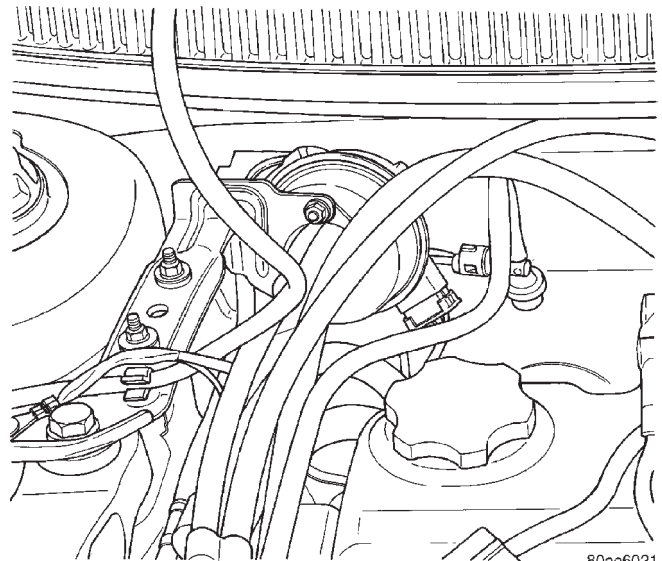
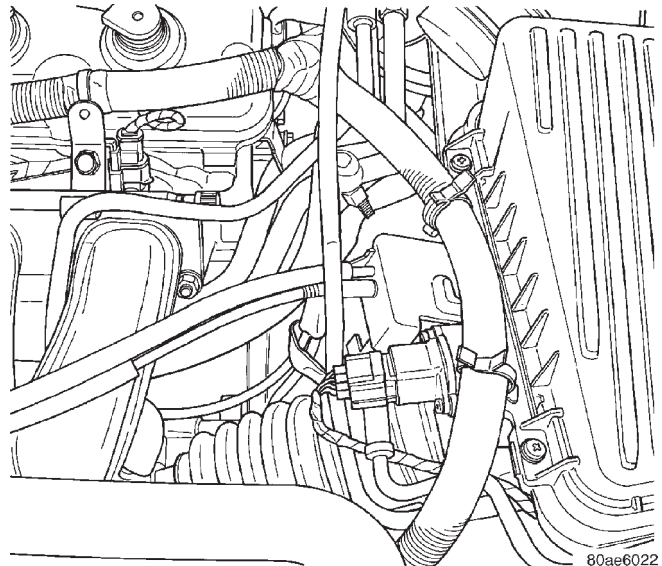

Fig. 3 Speed Control Servo
Fig. 4 Speed Control Cable
- (1) Disconnect the negative battery cable.
- (2) Remove the throttle cable cover.
- (3) Remove speed control cable from throttle lever by sliding clasp out of the hole (Fig. 4).
- (4) Lift the retaining tab on the throttle cable and slide cable out of bracket. Lift the retaining tab on the speed control cable and slide cable out of bracket.
- (5) Disconnect electrical connector from servo.
- (6) Disconnect vacuum hose from servo
- (7) Remove 2 nuts retaining bracket to servo (Fig. 3).
- (8) Remove push nuts holding cable housing to servo.
- (9) Remove retaining clip holding cable to servo.